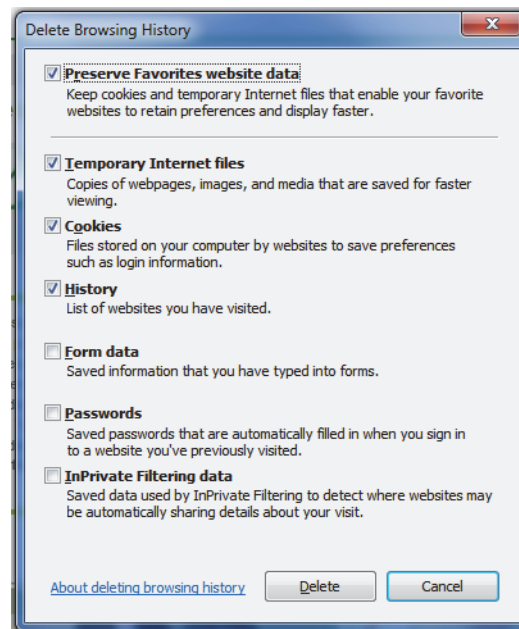

Figure 3-1 Internet Explorer Delete Browsing History
2. In the dialog box that appears (it varies for each web browser), select an option to clear temporary internet files or “cache”. See examples in Figure 3-1 and Figure 3-2 on page 3-25.